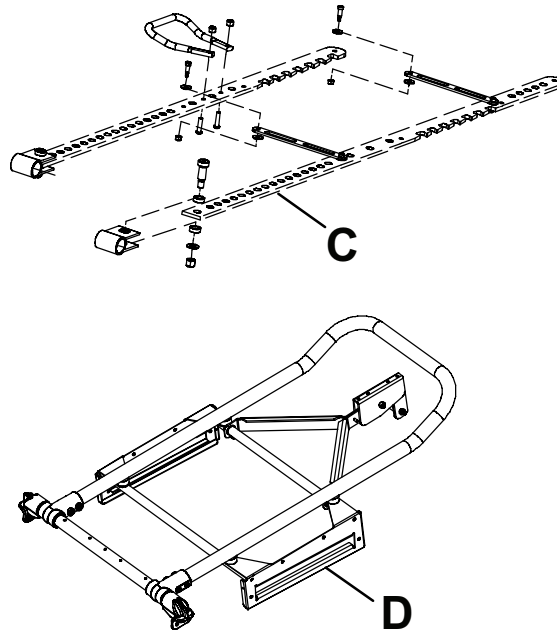

Figure 3 – Height adjustment racks and side plates
4. Apply **Tri-Flow™** to the right and left height adjustment racks (C) (Figure 3). Provide an even application.
5. Apply **Tri-Flow™** to the right and left side plates (D) (Figure 3). Provide an even application.